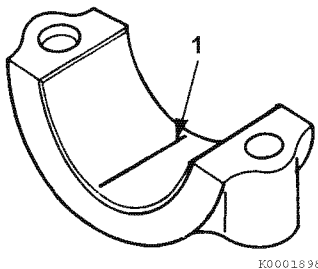

Figure 6-43
- 3- Place a piece of PLASTIGAGE® (1, **Figure 6-43**) along the full width of the bearing insert.